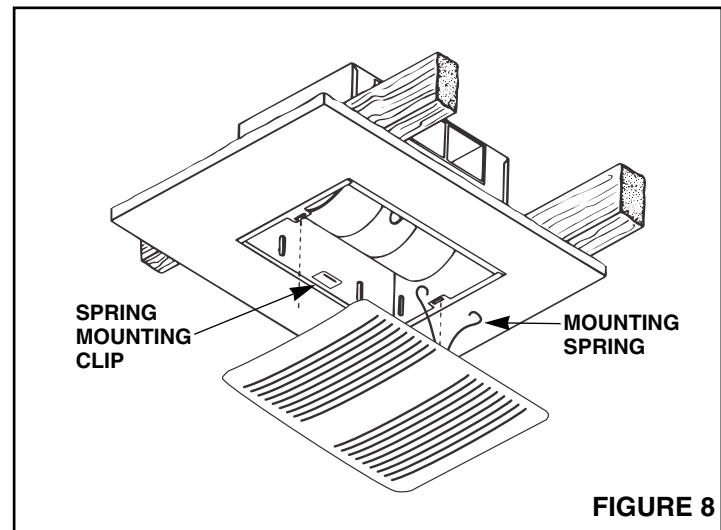

FIGURE 8
1. Refer to Figure 8. Compress grille mounting springs and insert into slots in the housing.